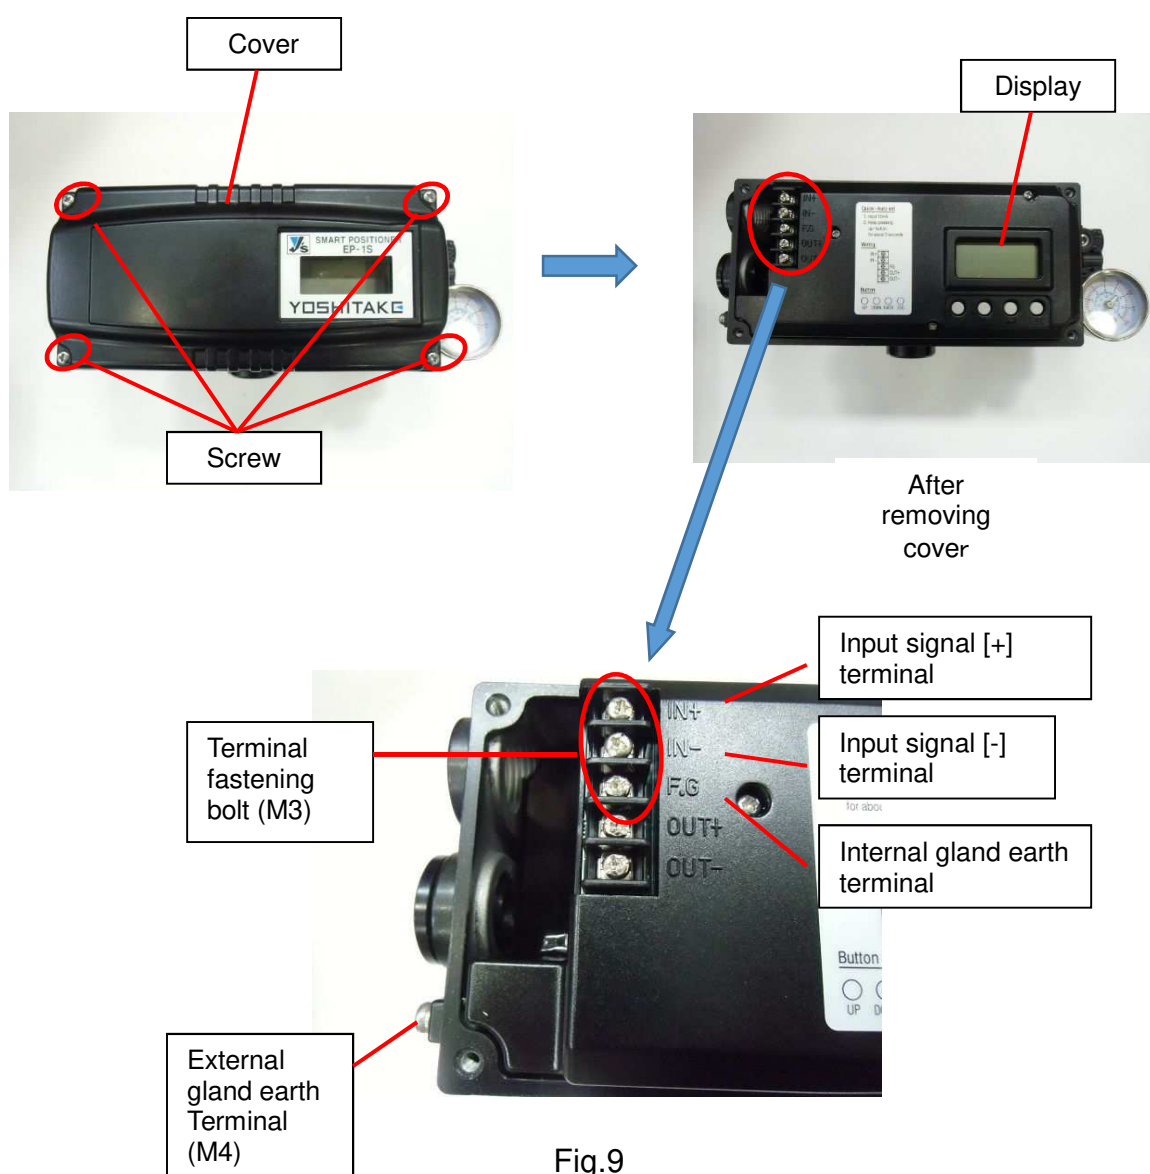

Fig.9
*Terminal wiring method (See Fig.9)
- ①Remove the cover on the positioner by loosen 4 screws.
- ②Connect external input line[+] to [IN+] terminal box and external input line[-] to [IN-] terminal box at left side of positioner. To avoid defective of cable, fix the cable by terminal fastening bolt (M3 screw).
- ③To protect the positioner, earth the inside or outside gland earth terminal.
- ④After connect external cables, tighten the screw and fix the cover. Please put cover as display can be shown.